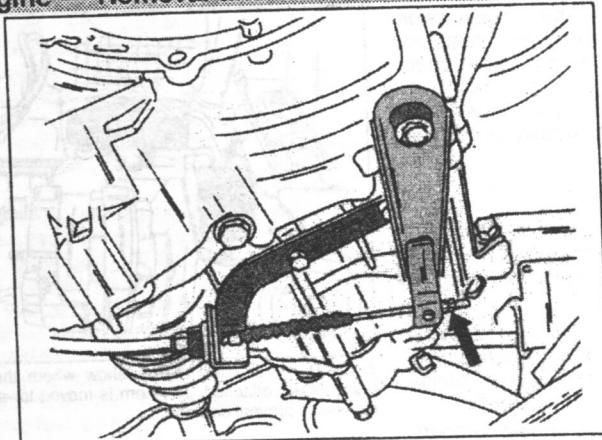

Fig. 1.13. — The clutch pedal height is adjusted by rotating the two nuts at the outer end of the clutch release lever.
- Adjust the clutch pedal free travel. This is obtained by adjusting the clutch pedal height. A helper is required to observe the position of the pedals as the two nuts are adjusted. After joining the clutch operating cable with the clutch release lever, adjust the two nuts, shown by the arrows in Fig. 1.13, until clutch and brake pedals are at the same height. Lock the two nuts against each other after the adjustment has been obtained.